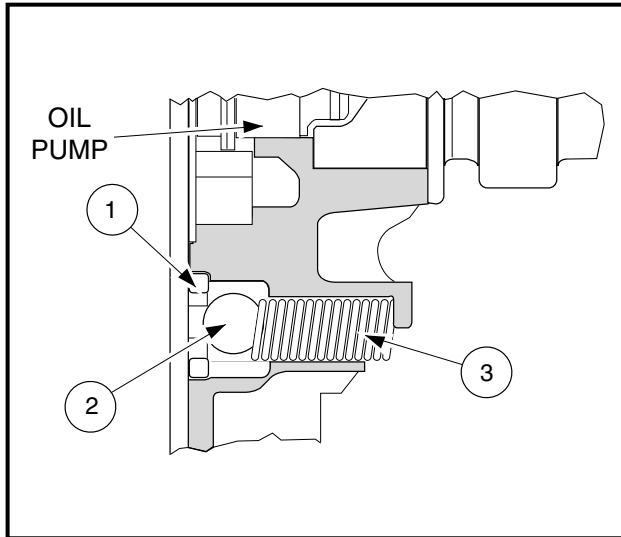
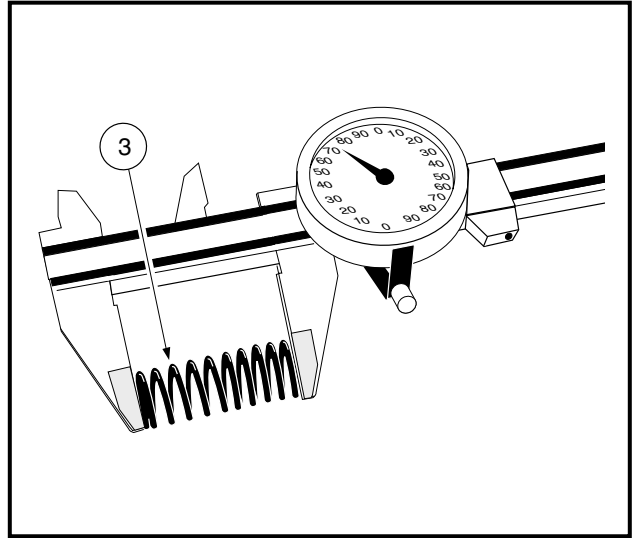

Figure 13-71 Oil Pressure Relief Valve
Figure 13-72 Measure Free Length of Spring
2. Remove the valve seat (1), ball (2) and spring (3) (**Figure 13-71, Page 13-35**).
1. Note the condition of the ball (2) and the valve seat (1). They must not have any nicks or burrs. Replace if necessary (**Figure 13-71, Page 13-35**).
2. Inspect the relief valve spring (3) for pitting, cracks, rusting and burrs. Replace if necessary.
3. Measure free length of the spring (3) with a vernier caliper (**Figure 13-72, Page 13-35**). If the free length of the relief valve spring is less than 0.748 inches (19.00 mm), replace the spring.